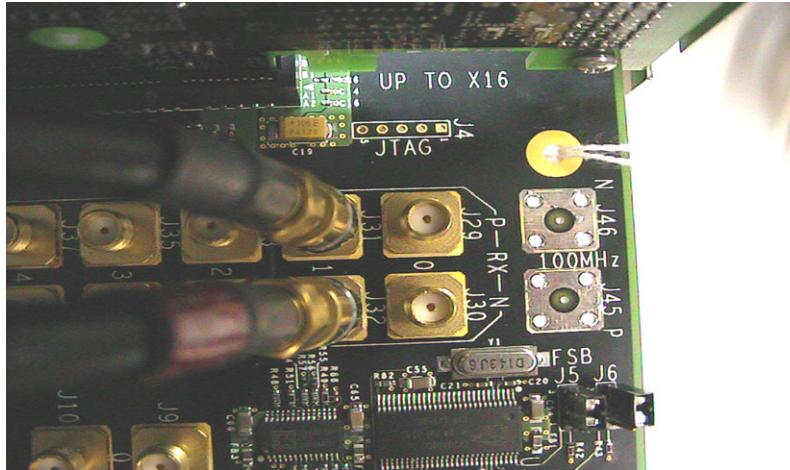

Figure 45 Compliance Base Board (CBB) SMA Probing Option
- a Digital Storage Oscilloscope channel 1 to the TX LANE P under test (where Lane 1 is under test in this example shown in Figure 45 above).
- b Digital Storage Oscilloscope channel 3 to the TX LANE N under test (where Lane 1 is under test in this example shown in Figure 45 above).